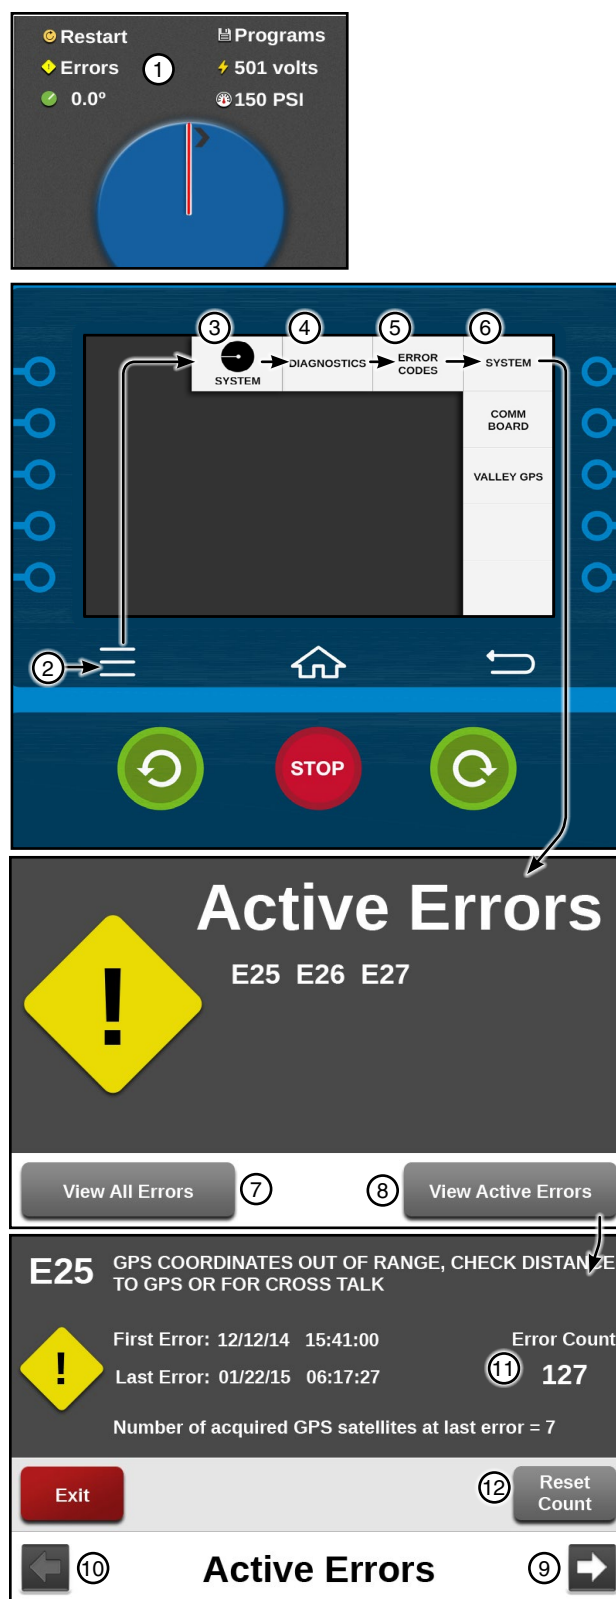

Figure 63-1
When an error occurs, information about the error, including the first time and date that the error occurred, last time and date that the error occurred, and total count of all times that the error occurred, is recorded. See Figure 63-1. A list of Error Codes are shown on the next page.
If one or more failures occur, the word Errors will display next to the Error icon in the status area of the Main Screen. Errors must be selected as a Main Screen status for it to appear on the Main Screen. See Figure 63-1.
To view the Error Codes refer to Figure 63-1 and do the following:
4. To set the Error Count to 0 (zero), push **Reset Count**. See Figure 63-1.